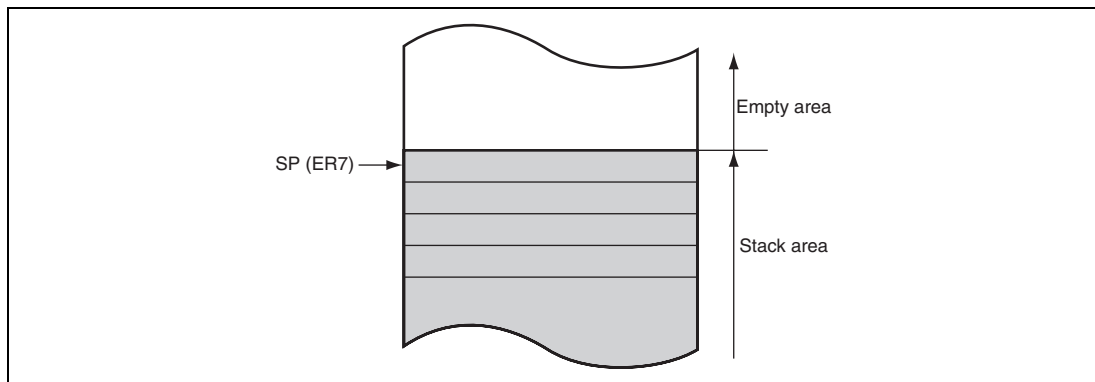

Figure 2.4 Relationship between Stack Pointer and Stack Area
General register ER7 has the function of stack pointer (SP) in addition to its general-register function, and is used implicitly in exception handling and subroutine calls. Figure 2.4 shows the relationship between the stack pointer and the stack area.